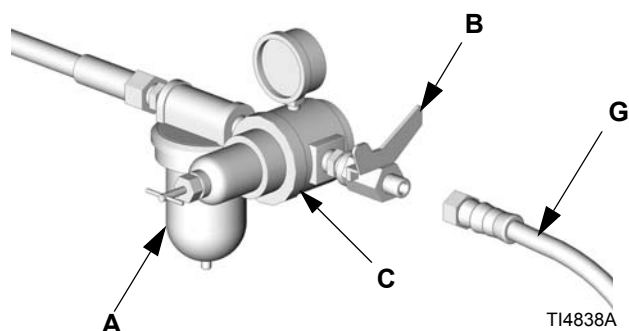

FIG. 3
6. Connect the other end of the air hose (G) to the outlet of the air shutoff valve. See FIG. 3.